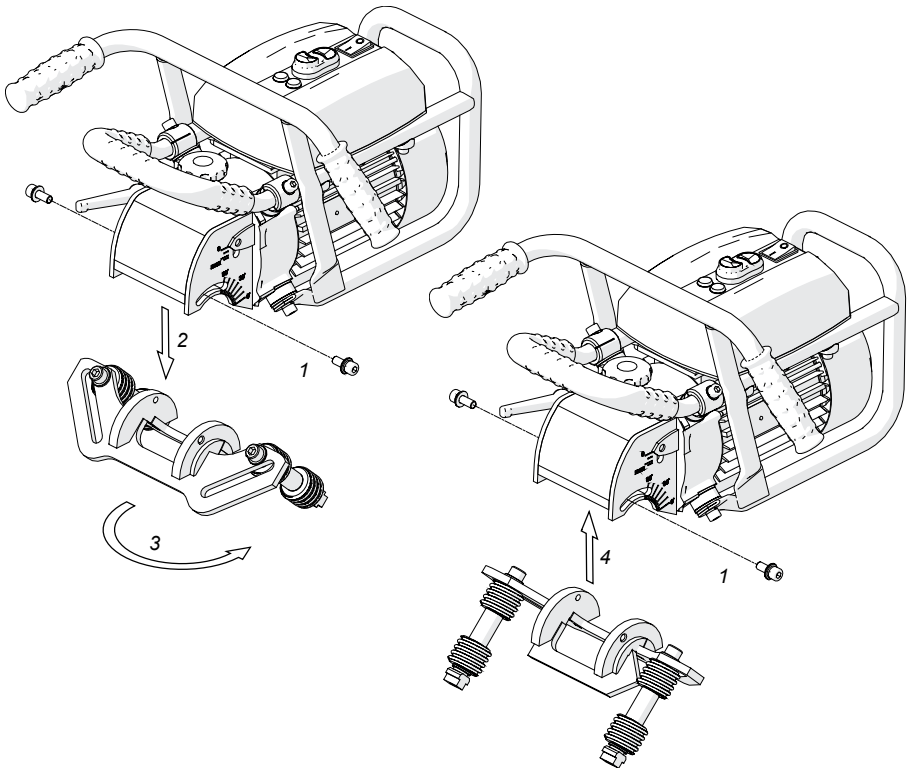
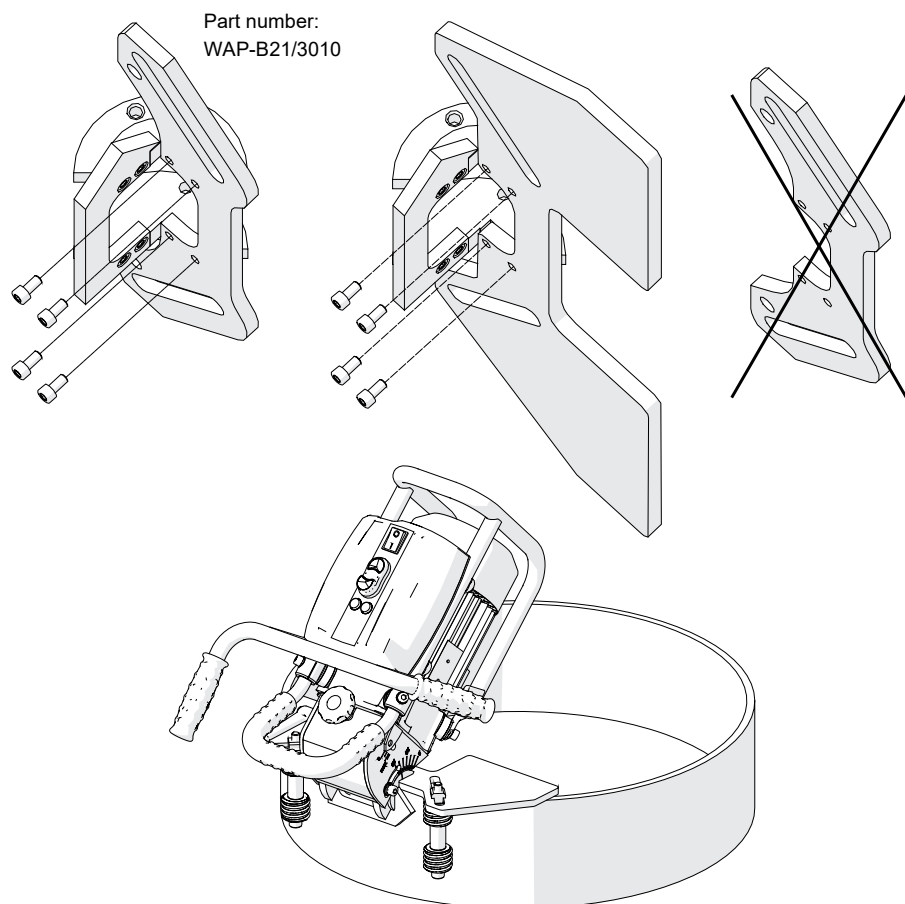

Fig. 5. Rotating and installing the guide set
Fig. 9. Machine prepared for work on pipes with diameters of more than 300 mm
To bevel pipes with diameters of 150–300 mm (6–12"), assemble the standard guide set in a different way. To do this, use the 6 mm hex wrench to remove two side screws (1, Fig. 5) and remove the guide set (2). Then, rotate the set by 180° around the vertical axis (3), install again (4), and attach with the screws (1).
To bevel pipes with diameters of more than 300 mm (10"), assemble the guide set by using an optional guide. To do this, remove the guide set (1, 2, Fig. 5) and use the 4 mm hex wrench to remove the standard guide. Then, assemble the guide for pipes with diameters of more than 300 mm (Fig. 9) and tighten with the screws. Install the rollers and adjust the required bevel angle and width as described before.